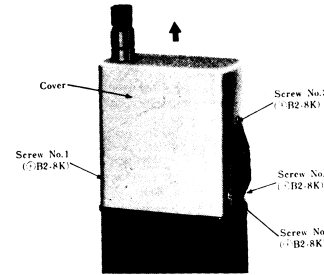

Fig. 3-A
To Remove Chassis (Refer to figs. 3-A, B & C)
1. Remove two (2) control knobs from cabinet front.
2. Remove four (4) cover mounting screws, nos. 1~4, as illustrated in fig. 3-A.
3. Turn cover in the direction of arrow as illustrated in fig. 3-A.